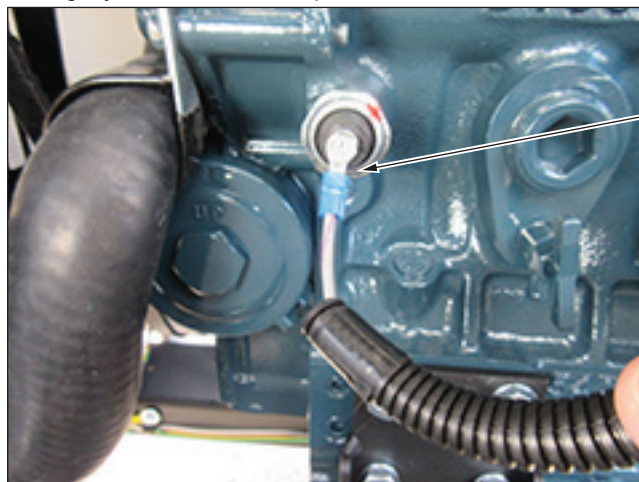

Figure 30 - Connect Oil Pressure Switch Wire
- i. See Figure 30. Connect gray/violet wire to oil pressure switch.